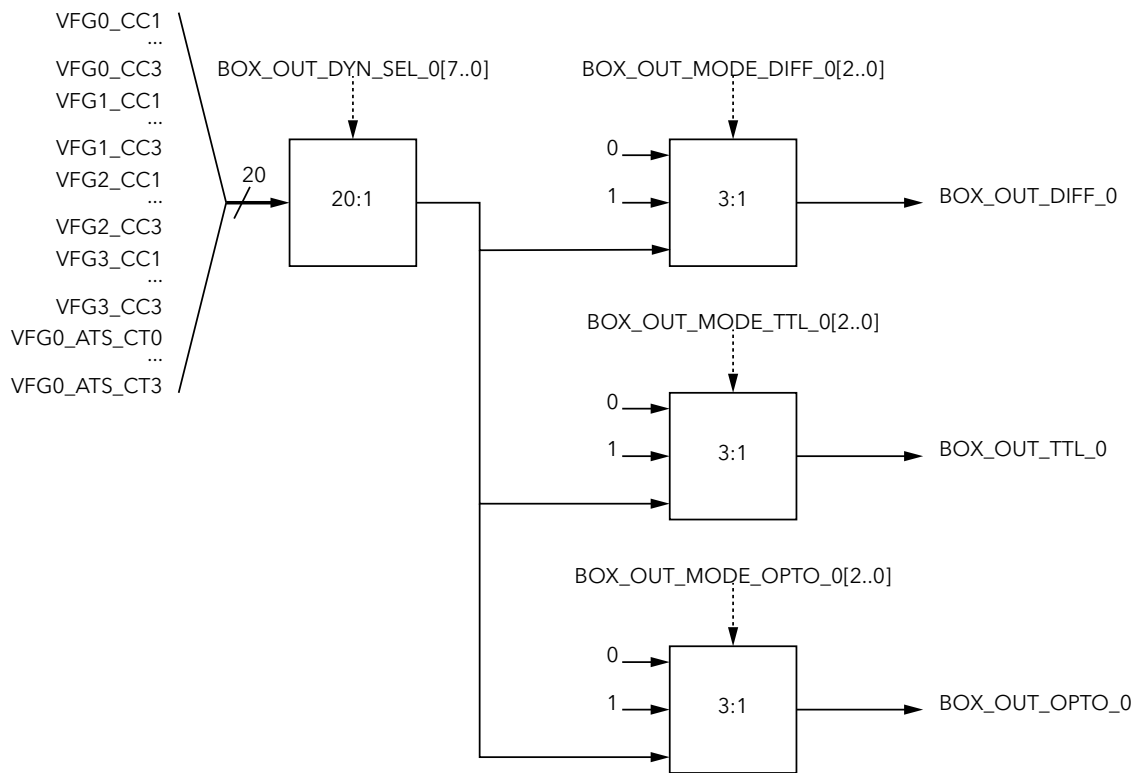

Figure 5-7 BitBox Output Signal Routing
The BitFlow BitBox has 3 banks of 12 outputs. One bank is TTL, one bank is differential and one bank is a mix of Optocoupled and Open Collector outputs. Each of the 36 outputs can be set to a static output level, or controlled by a dynamic source (waveform). Figure 5-7 shows how the outputs are controlled.
*Note: Figure 5-7 shows the choices and routing for just 3 outputs. A total of 12 of these circuits (each with their own control registers) are required on the board in order to control 36 outputs.*